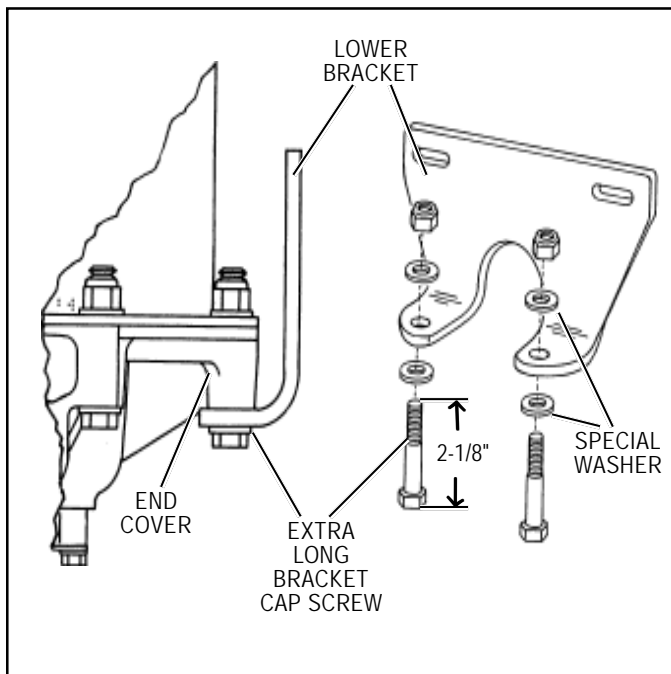

FIGURE 9 - LOWER BRACKET INSTALLATION
- position the unit for ease of installation. Locate the bracket such that it cradles the end cover as shown in Figure 9. Utilizing the two 2-3/8" long cap screws, lock nuts and special washers provided with the AD-9® air dryer retrofit unit, attach the lower mounting bracket and torque to 270-385 in. lbs.